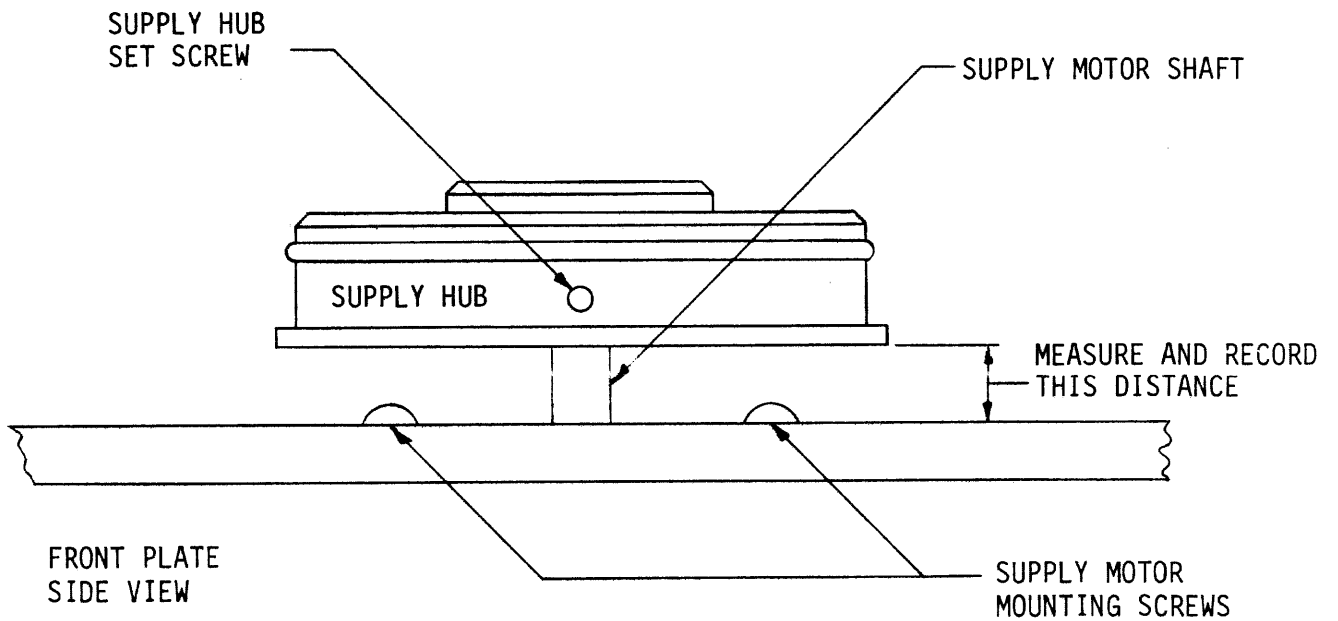

Figure 9-2, REEL HUB HEIGHT MEASUREMENT
3) Measure and record for future use the distance between the supply hub and the plate. Refer to figure 9-2.